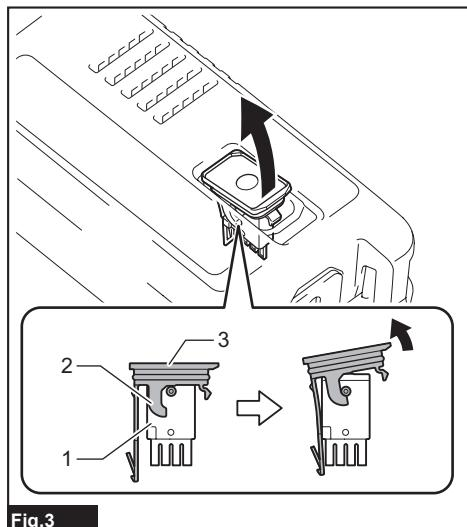

Fig.3
► Fig.3: 1. Wireless unit 2. Hook 3. Lid